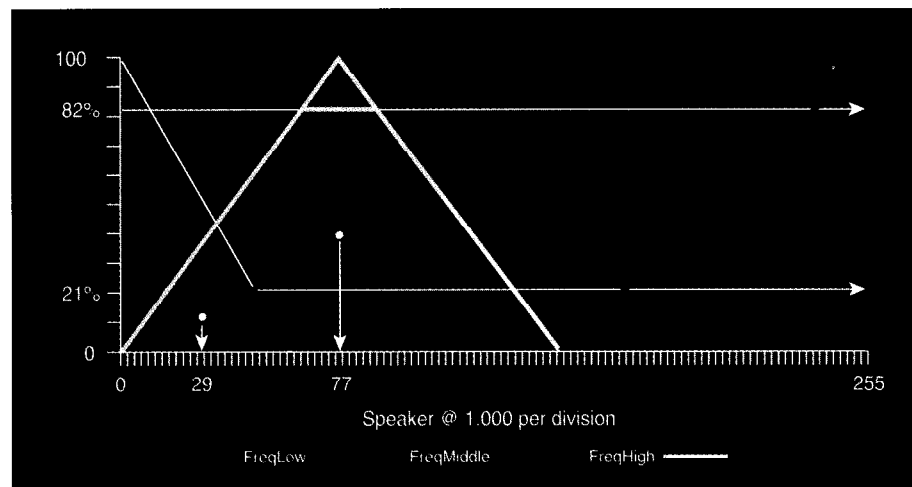

Figure 10—After finding the fuzzy values, they are processed by the rules and transferred to the output graph. Centroids are used to find the X-axis values.
Refer to Figure 10. Draw a horizontal line from the 21% mark on the y-axis. The shape is specified in the rule as FreqLow. That's how the percentage membership is transferred. The fuzzy value defines the top of the area (dark outline) that's used to calculate the centroid. After finding
Before finding the crisp output, it is necessary to calculate the centroid for the second rule (C). Once again, start with transferring the 82% membership to the FreqMiddle shape (the shape is an equilateral triangle, so the centroid is in the middle of the base regardless of what the fuzzy value is). If you refer again to Figure 10, you can see that the centroid is 77. No other rules fired. The final output is calculated by: